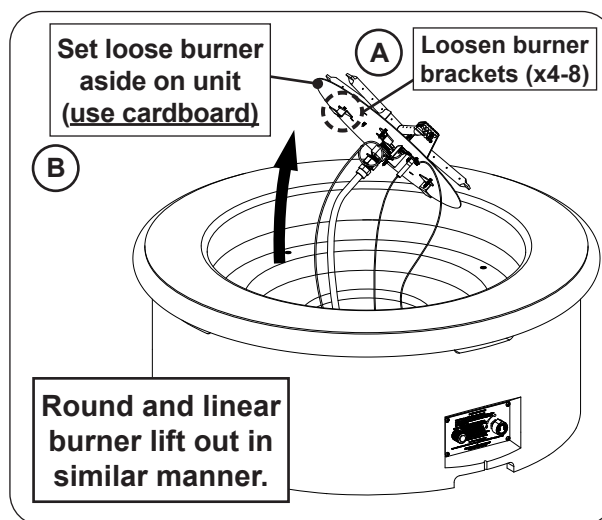

Fig. 28-2 Gain access to interior of unit
2. Use a  $\frac{5}{16}$ " nut driver to loosen the 4-8 screws found on the burner assembly (see Fig. 28-2, A).
3. Carefully lift out the burner just enough to set it off to the side (see Fig. 28-2, B).